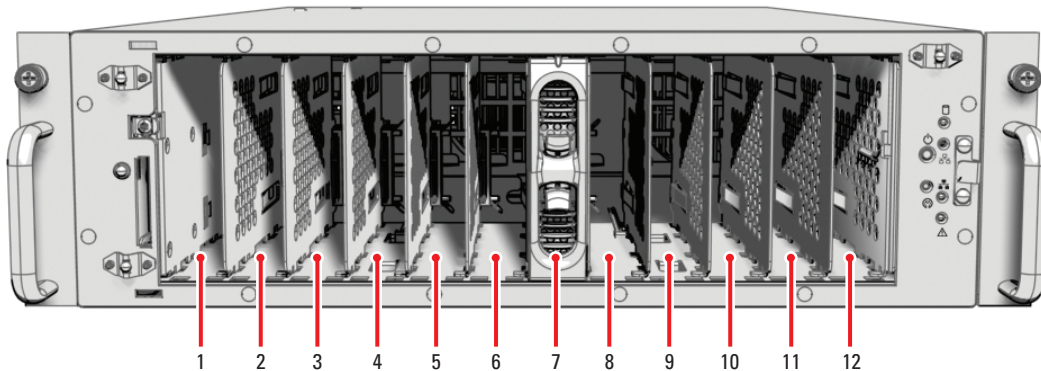
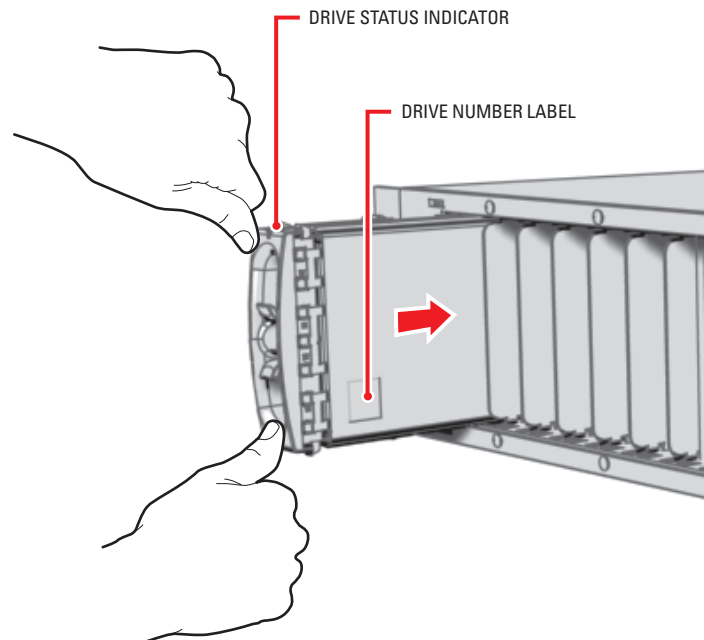

Figure 17. Drive Bay Assignment
Figure 18. Hard Disk Drive Carrier Installation
2. Identify the drive bay for each hard drive carrier. The drive bays and drive carriers are numbered from 1 to 12 (refer to Figure 17 below and Figure 18 on page 22).